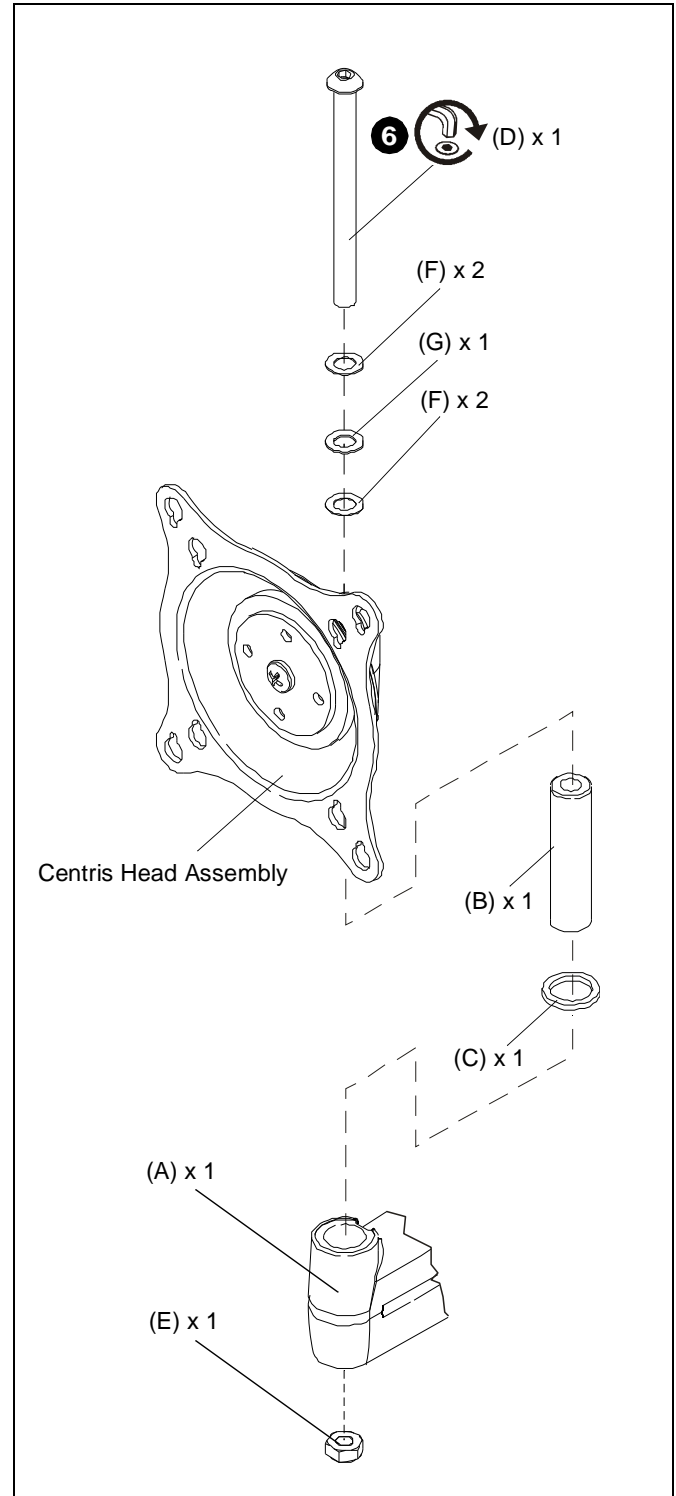

Figure 3
1. Slide spacer (C) onto pivot pin (B). (See Figure 3)
2. Insert pivot pin (B) with spacer (C) into top of existing arm until pivot pin (B) is resting on bottom of recessed area in arm. (See Figure 3)
3. Slide Centris head assembly (A) onto pivot pin (B) with spacer (C). (See Figure 3)
4. Insert nut (E) up into bottom of extension arm (A) until seated in "Nut-shaped" recessed area and hold in place. (See Figure 3)
5. While holding nut (E) in place, slide screw (D) through washers (F and G) in the order shown in Figure 3. (See Figure 3)
6. Insert screw (D) with washers (F and G) into top of Centris head assembly, downward through pivot pin (B) with spacer (C) through extension arm (A) and thread into nut (E). (See Figure 3)